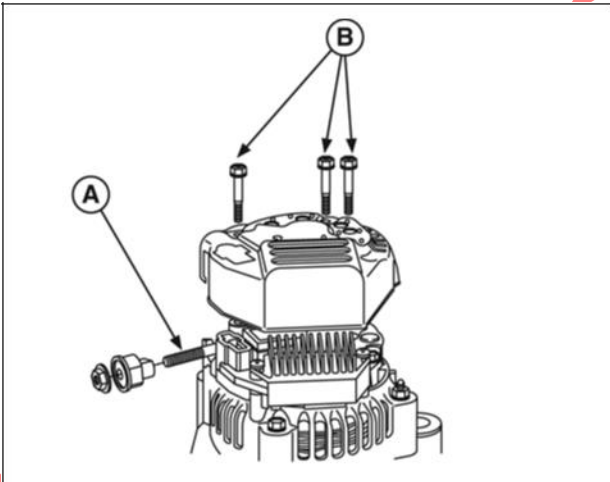

Figure 21
- 4. Remove two screws and brush retainer assembly (A, Figure 21).